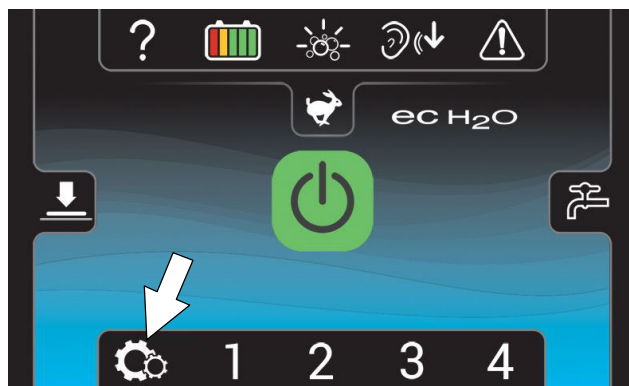

FIG. 134
2. Press the settings button located on the home screen (Figure 134).